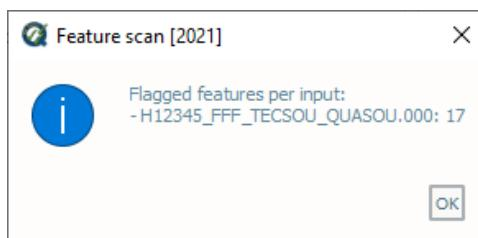

Fig. 2.45: The output message at the end of Feature scan execution.
- After computing, the output window opens automatically, the results are shown(Fig. 2.45).